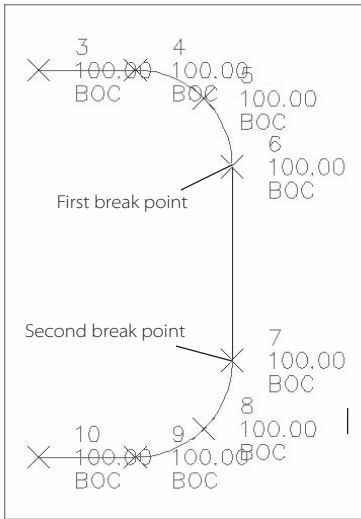
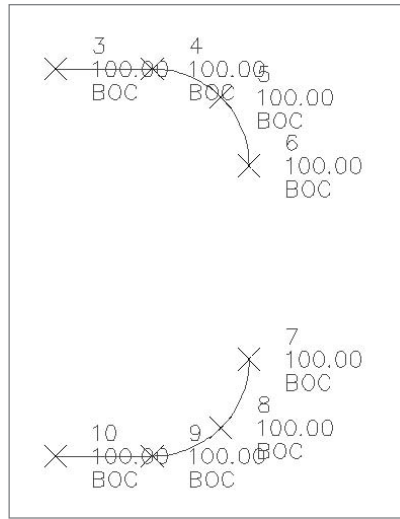

Figure A.14
Figure A.15
6. At the Specify first break point: prompt, use your node osnap to select point number 6, as shown in Figure A.14.
7. At the Specify second break point: prompt, use your node osnap to select point number 7, as shown in Figure A.14. The figure will break into two pieces, leaving an opening, as shown in Figure A.15.